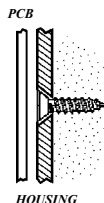

Figure 2:
6. Mount the back cover to the wall using two screws and replace the PCB. Use ISO 7050 (ST3.5 x 22) or similar countersunk screws so that the screw head will not touch the PCB – see Figure 2.